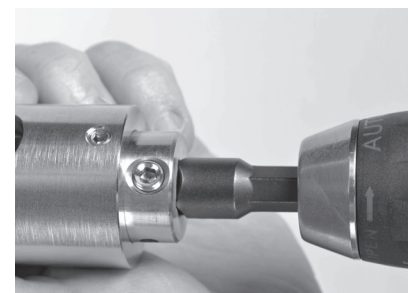

Fig. 31 Inserting the power adapter into drill chuck
4. Insert the power adapter into a 1/2 in. variable speed power drill chuck. (Fig. 31)